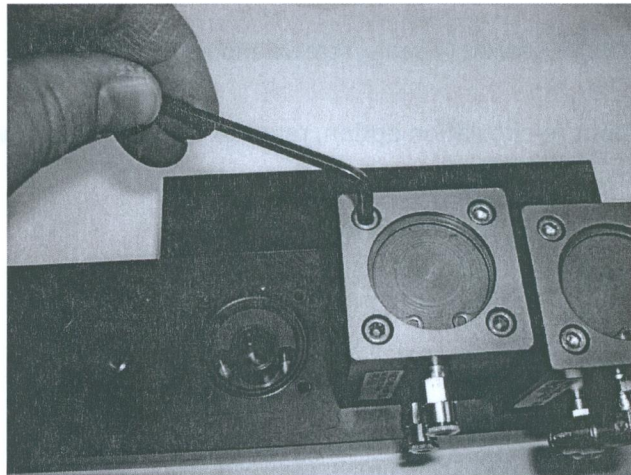

Fig 13
- Using a ____ Allen wrench, remove the four screws holding the top valve to the main manifold. Refer to Figure 13